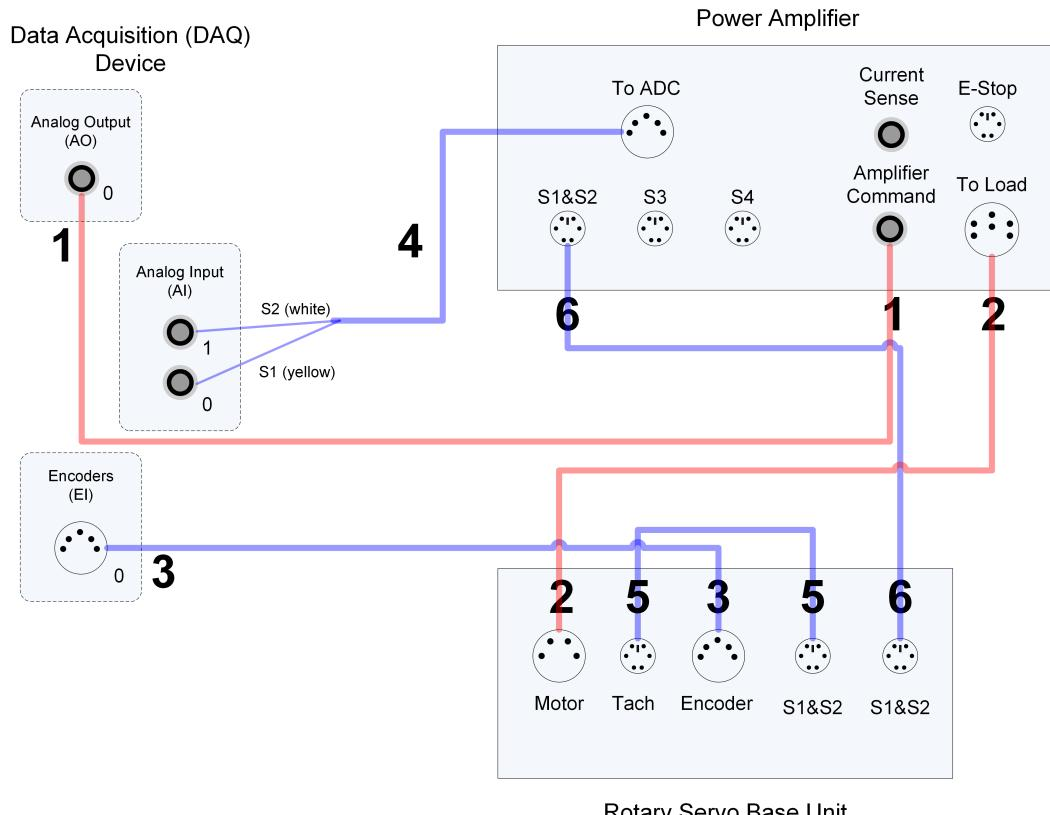

Figure 5.2: Connecting the Rotary Servo Base Unit to a Single-Channel Amplifier and Two-Channel DAQ
This section describes how to connect the Rotary Servo Base Unit Rev 1 plant to a data acquisition device and a power amplifier. The connections are summarized in Table Table 5.3 and illustrated in Figure 5.2. Connection details are given below.
Note: The wiring diagram shown in Figure 5.2 is using a generic data acquisition device. The same connections can be applied for any data acquisition system that has least 2x analog inputs, 1x analog output, and 1x encoder input.
3. Connect one end of the 2xRCA to 2xRCA cable from the Analog Output Channel #0 on the DAQ to the *Amplifier Command* connector on the amplifier, i.e. use both white or both red RCA connectors. See cable #1 shown in Figure 5.2.
4. Connect the 4-pin-stereo-DIN to 6-pin-stereo-DIN that is labeled from *To Load* on the amplifier to the *Motor* connector on the Rotary Servo Base Unit. See connection #2 shown in Figure 5.2.
5. Connect the 5-pin-stereo-DIN to 5-pin-stereo-DIN cable from the *Encoder* connector on the Rotary Servo Base Unit panel to Encoder Input #0 on the DAQ, as depicted by connection #3 in Figure 5.2.
6. Connect the *To ADC* socket on the amplifier to Analog Inputs #0-1 on the DAQ using the 5-pin-DIN to 4xRCA cable, as illustrated in Figure 5.2. The RCA side of the cable is labeled with the channels: yellow is S1, white is S2, red is S3, and black is S4. The yellow S1 connector goes to Analog Input Channel #0 and the white S2 connector goes to Analog Input Channel #1.
7. Connect the *TACH* connector on the Rotary Servo Base Unit to the S1 & S2 socket on the Rotary Servo Base Unit using the 6-pin-mini-DIN to 6-pin-mini-DIN cable. This connection is labeled #5 in Figure 5.2. It combines the potentiometer (S1) measurement with the tachometer (S2) measurement.
8. Connect the S1 & S2 connector on the Rotary Servo Base Unit to the S1 & S2 socket on the amplifier using the 6-pin-mini-DIN to 6-pin-mini-DIN cable. See connection #6 in Figure 5.2. This carries the potentiometer (S1) and tachometer (S2) signals.